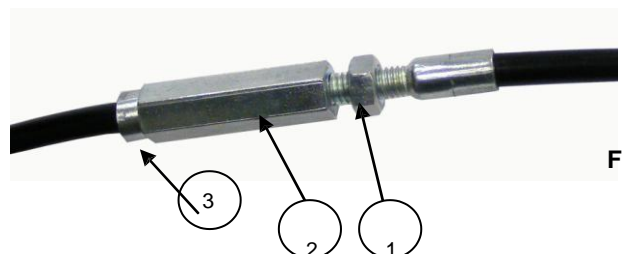

Figure 6
Screw off the retaining nut of the adjusting sleeve (Figure 6, Item 1).
While turning the sleeve (Figure 6, Item 2) as compared to the body (Figure 6, Item 3), determine the play of the cable as compared to the wiring. Screw in the retaining nut.
1. Press clutch lever out to 1/3 of the free escapement (Figure 6).
Screw off retaining nut of adjusting sleeve (Figure 6, Item 1).
While turning the sleeve (Figure 6, Item 2) as compared to the body (Figure 6, Item 3), determine the play of the cable as compared to the wiring. Screw in the retaining nut